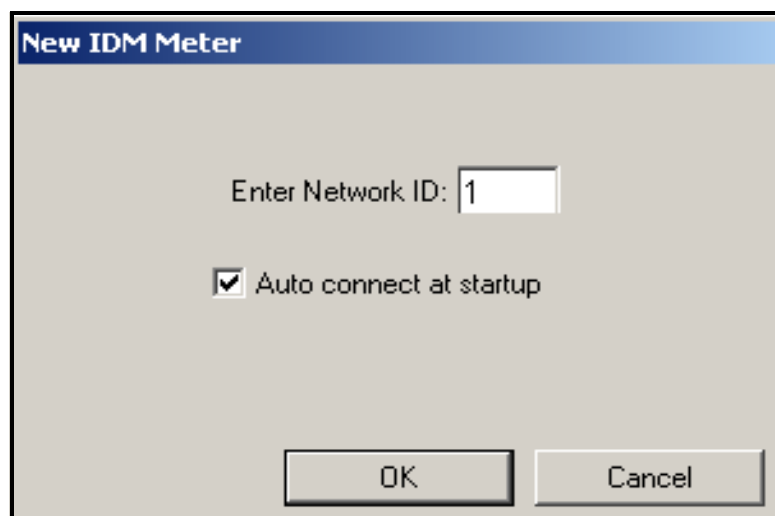

Figure 22: New IDM Meter Screen
4. The “*New IDM Meter*” screen (shown in Figure 22 below) opens. Enter the Network ID number for the meter, and click [OK].